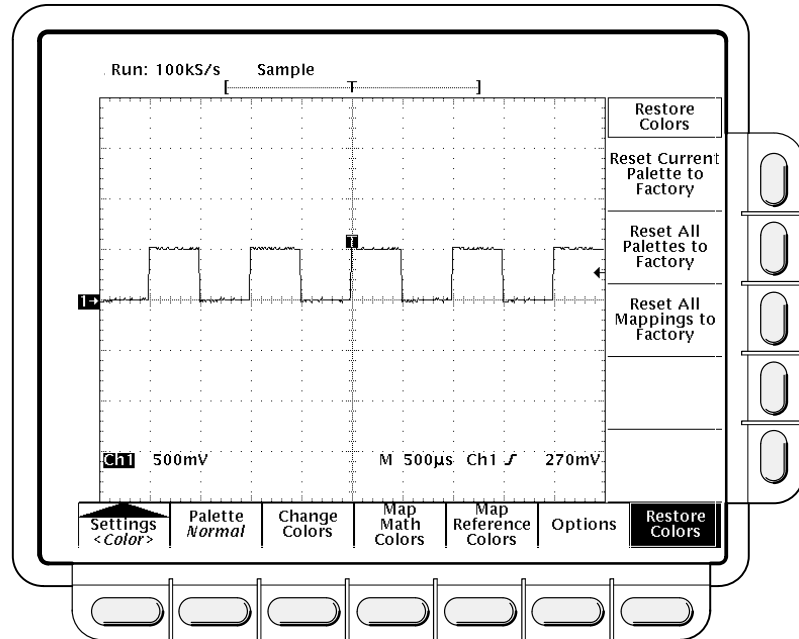

Figure 3-7: Display Menu — Restore Colors
1. Press the main menu **Restore Colors** item (see Figure 3-7).